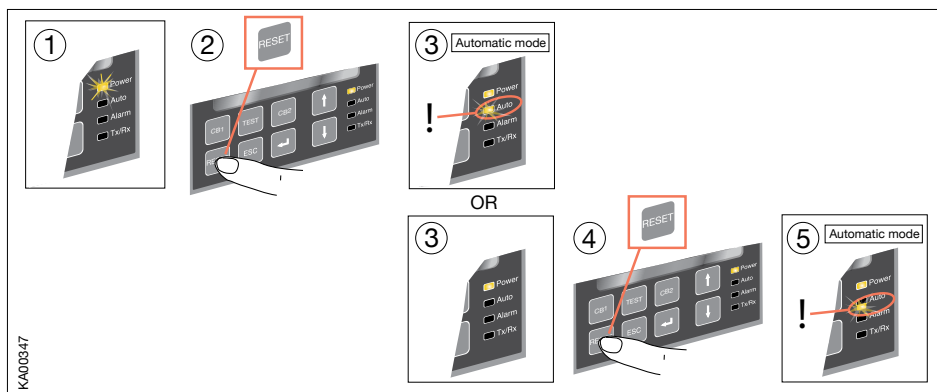

Figure 4.4 Selecting the automatic transfer switch ATS022 to Automatic Mode
- Make sure that power LED is ON, see the Figure 4.4/①.
- Push the RESET key once /②.
- If Auto LED is ON, the automatic transfer switch is in Automatic Mode /③.
- If the Auto LED is OFF, push the RESET key again /④, the Auto LED switches to ON /⑤ and the automatic transfer switch is in Automatic Mode.